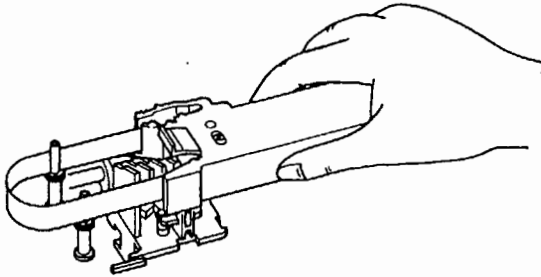

Fig 6.4
- (4) Pull out the ribbon slightly from the ribbon cassette and install the ribbon onto the two guide pins. At this time, the ribbon adjustment knob must face down. (Fig. 6.4)